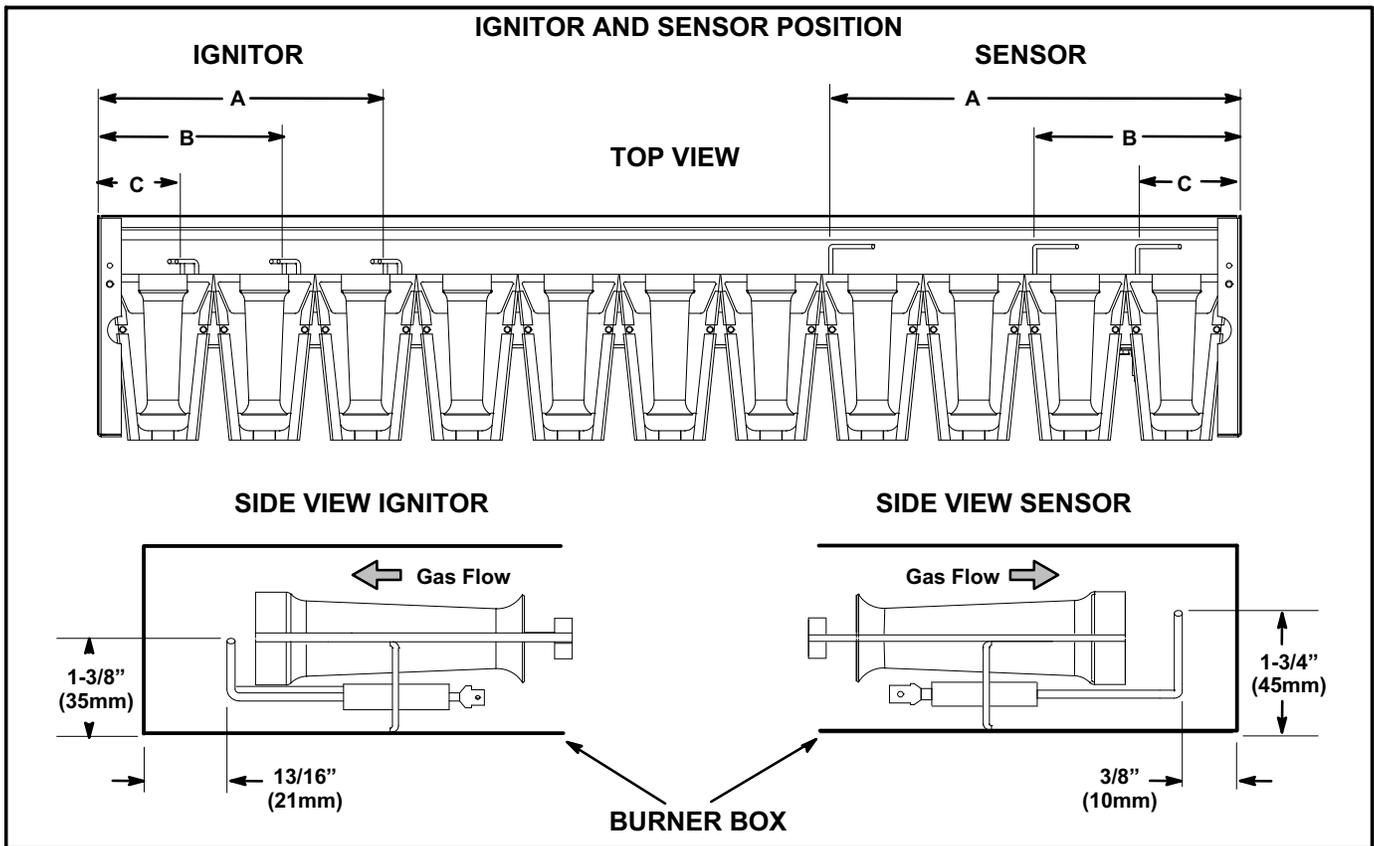

FIGURE 41
- 5- Check the alignment of the ignitor and the sensor as shown in figure 41 and table 24.